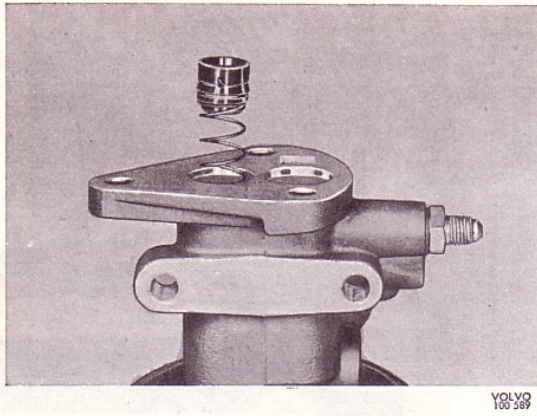

Fig. 38. Fitting the pressure plunger.
- Take a new plunger (15, Fig. 37) with inner seal (13) fitted. Fit the plunger seal (14) and turn it as shown in the figure. Place the spring (11) on the plunger. Dip the plunger in brake fluid and insert the spring into the cylinder, see Fig. 38. Fit the washer (16) and carefully press in the plunger with the help of the clamp. Fit the circlip carefully as shown in Fig. 35. Check that it locates properly in its groove. Place the seal (19) on the spacing sleeve (18) and fit this. Place the sleeve (20) in position.